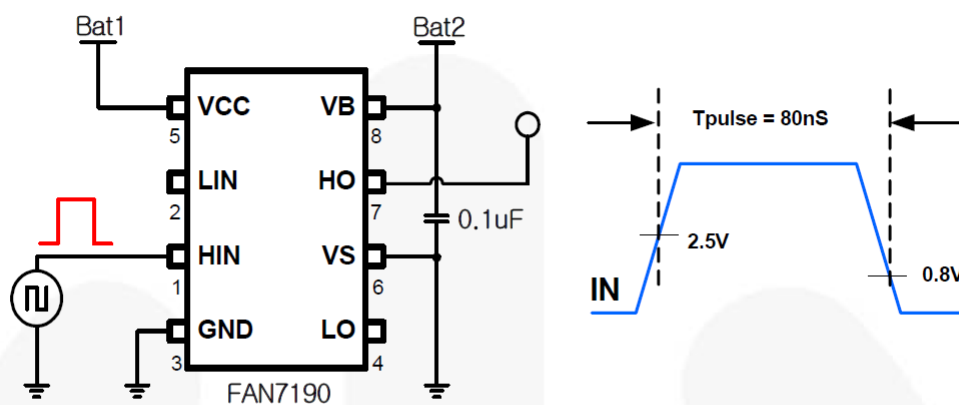

Figure 28. Short Pulse Width Test Circuit and Pulse Width Waveform
- Guaranteed by design. Refer to Figure 28, 29 and 30 on page 11